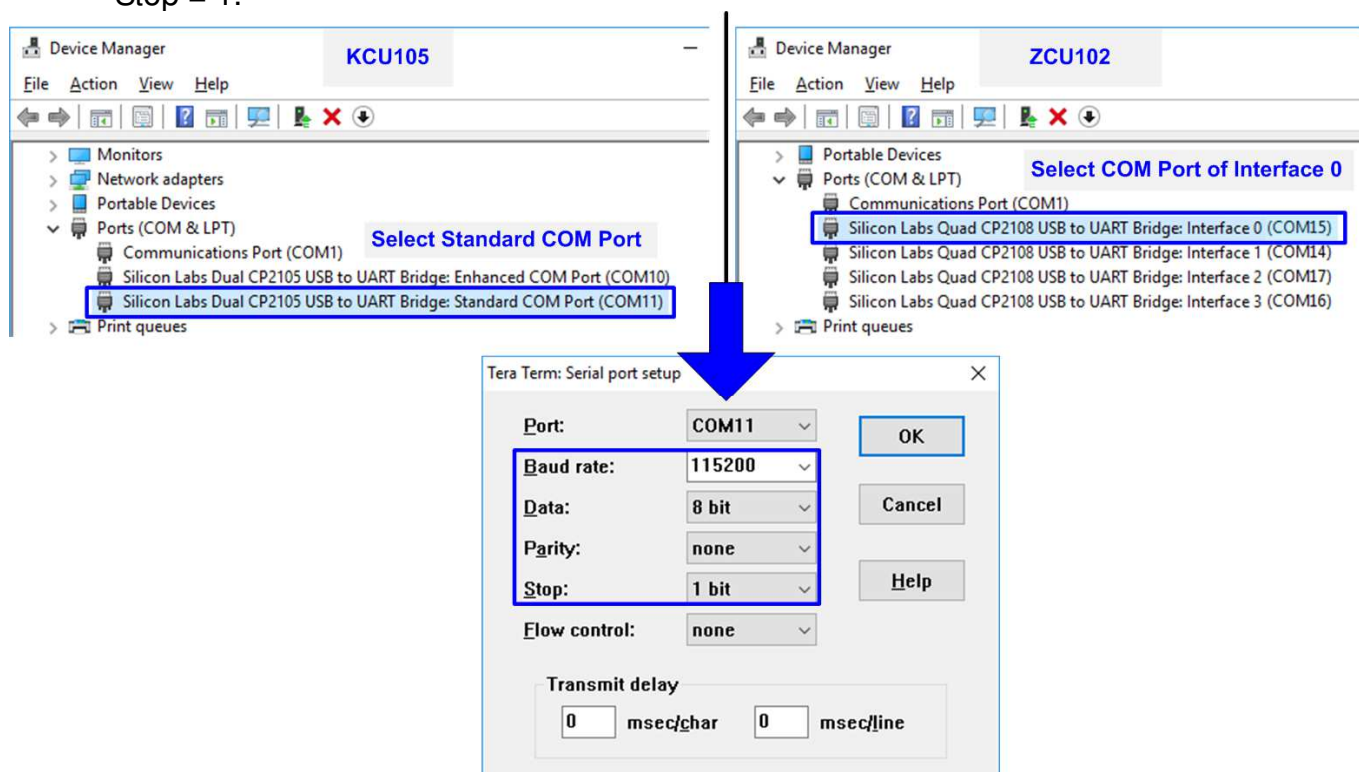

Figure 4-4 COM port number for Serial console
- 7) Open Serial console. When connecting FPGA board to PC, many COM ports from FPGA connection are detected and displayed on Device Manager. In case of KCU105, select Standard COM port. In case of ZCU102, select COM port of Interface0 (COM15 in right side of Figure 4-4) for Serial console. On Serial console, use following setting: Baud rate=115,200, Data=8 bit, Non-Parity, and Stop = 1.